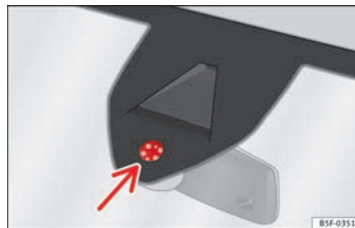

Fig. 76 Rain sensor sensitive surface
Possible causes of faults and mistaken readings *on the sensitive surface* ⇒ Fig. 76 of the rain sensor include:
- Clean the sensitive surface of the rain sensor regularly and check the blades for damage ⇒ Fig. 76 (arrow).